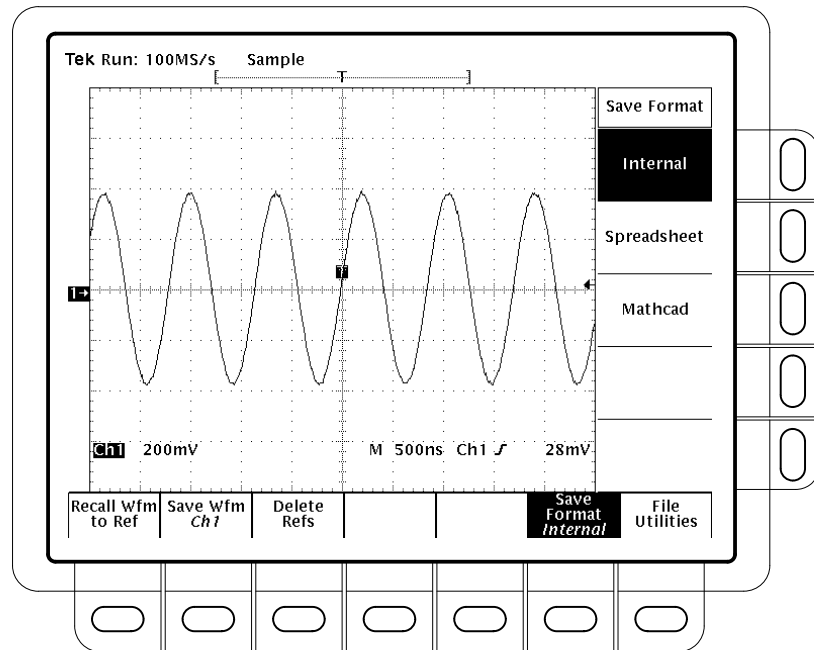

Figure 3-49: Save Format Menu
**NOTE.** Before doing step 3 that follows, note the current Save Format (see Figure 3-49). If you desire to save to a different format, see To Select the Save Format on page 3-104.